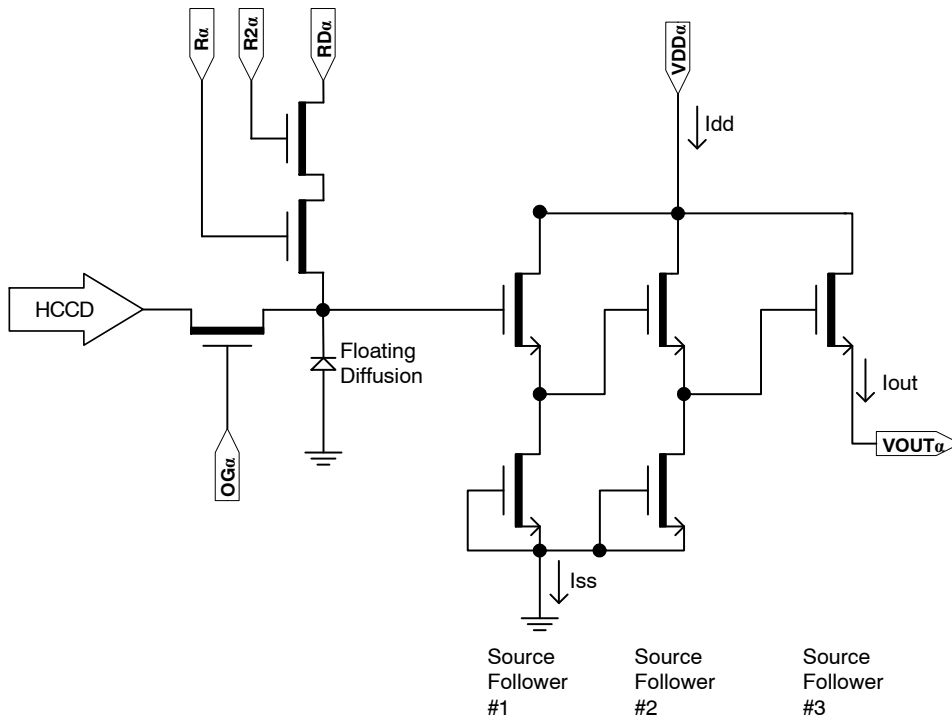

Figure 20. Output Amplifier – Showing Dual Reset Pins
- The maximum DC current is for one output. Idd = Iout + Iss. See Figure 20.